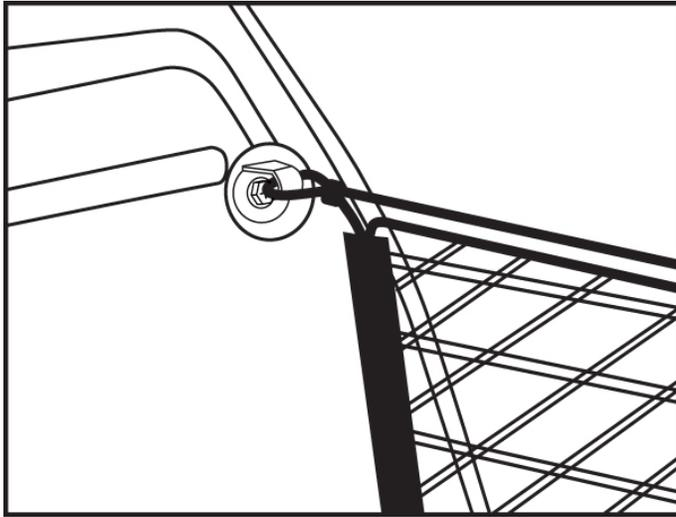

Fig. 2-1
- (a) Orient the net so the pull-tab is facing towards the rear of the vehicle and install the upper bungee loop over the passenger side hook as shown (Fig. 2-1).